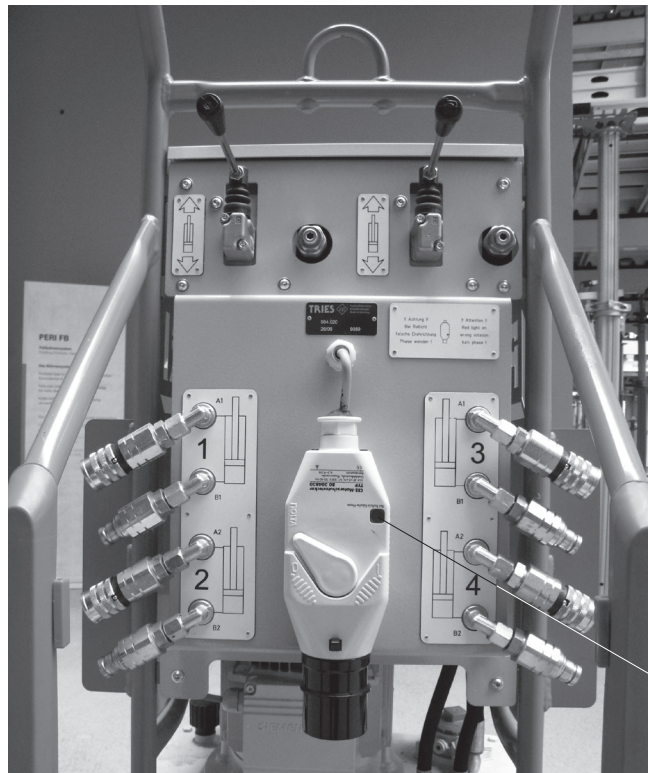

Fig. 14
- If the rotary field display (12.3.7) is red, turn the phase inverter 180° in the plug. (Fig. 14 + 15)